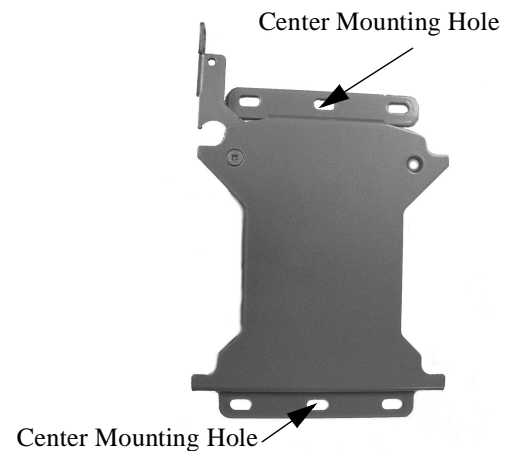

Figure 9. Center Mounting Holes
1. Locate stud and, using wall bracket (10) as a template at the desired mounting location, mark the location of the two center mounting holes (see Figure 9).
2. Install .25 ID X .56 OD flat washer (50) on each of two wood screws (30).
3. Using the wood screws (30) with flat washer (50) installed, secure the wall bracket to the wall.